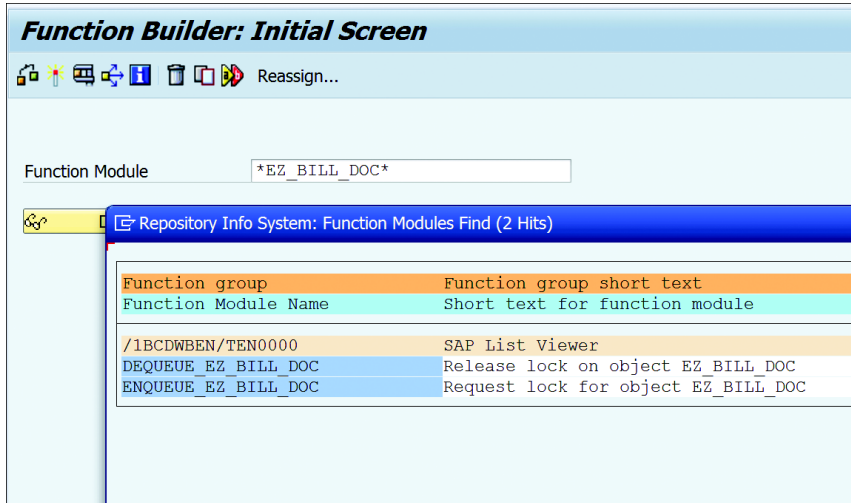

Figure 10.79 Function Modules Generated by Lock Object
5. Once the lock object is activated, the system generates two function modules: ENQUEUE_obj name and DEQUEUE_obj name. For this example, the function modules ENQUEUE_EZ_BILL_DOC and DEQUEUE_EZ_BILL_DOC are generated, as shown in Figure 10.79. These function modules can be called in ABAP programs to set and release locks. The lock parameters are passed to the function module during requests to set or release the lock.